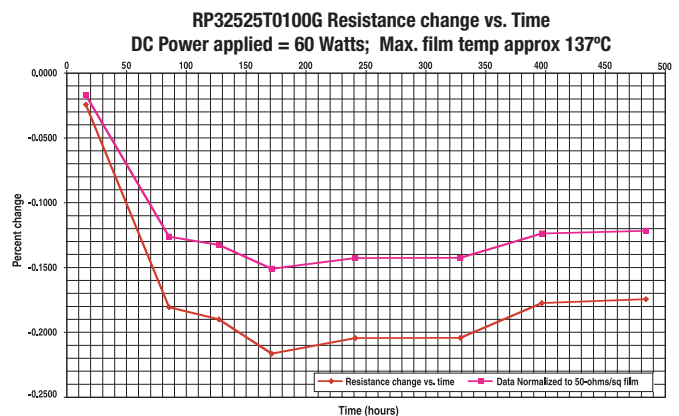

Figure 7: Percent resistance change of TaN resistors with applied DC power
What now of aging effects due to the application of a DC voltage? **Figure 7** shows the average measured change in resistance of three 100-ohm, 60-Watt resistors selected at random from a production run and DC power-aged – this time exactly in accordance with MIL-PRF-55342 – for 490 hours. The top curve shows the raw data; maximum resistance change was about –0.22%. The lower curve shows the data normalized to a 50-ohms/square resistivity, i.e., the resistance change was scaled by the ratio of actual film resistivity, 72 ohms/square, to 50 ohms/square using equation (1). The meaning of the scaling here is ambiguous, since resistance change is now seen to occur as a result of two separate effects: Heating – to which resistivity scaling applies by virtue of (1) – and a DC voltage sensitivity resulting from unknown causes. The latter phenomenon is common in thick films and is believed to result from an agglomeration of small conductive particles, under the application of a DC potential, into lower resistance larger particles. However, a corresponding thin-film mechanism does not seem to be reported in the available literature. Nevertheless, AVX has observed it experimentally on substrates from a number of different vendors and having a variety of surface roughnesses. The salient feature is that this effect causes resistance to decrease with time, whereas thermal effects cause it to increase. We can infer from Fig. 7 that the DC aging effect dominates for the first 170 hours, after which the thermal effect becomes significant. The fact that the two phenomena yield resistance departures in opposite directions helps to generate good results on the Mil spec test – although it must be cautioned that AC-only use could produce greater changes. Absent specific knowledge of customer use, AVX performs its standard aging test with DC applied per the Mil spec.